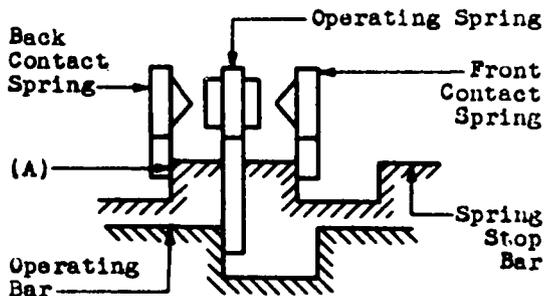

Fig. 13 - Tang Pressure - Transfer Spring Combination - Back Contact Spring
(1) Back Contact Spring Tang - Fig. 13